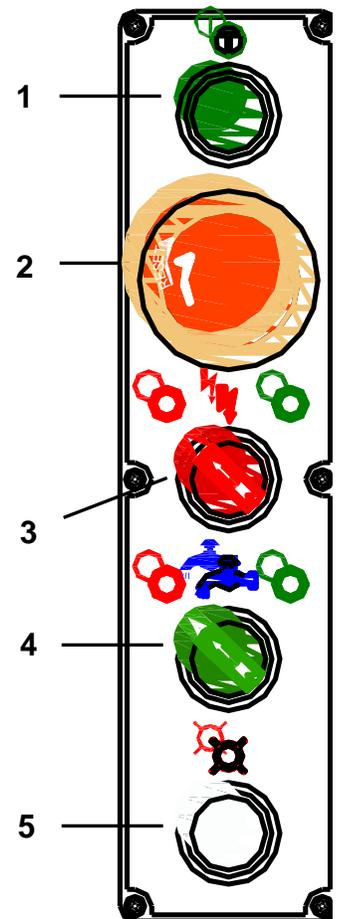

figure 27
Note: If any of the 3 handles offer resistance when shifting, briefly press the jog button (1) in (fig. 27) to line up the gears and allow the handle to shift.